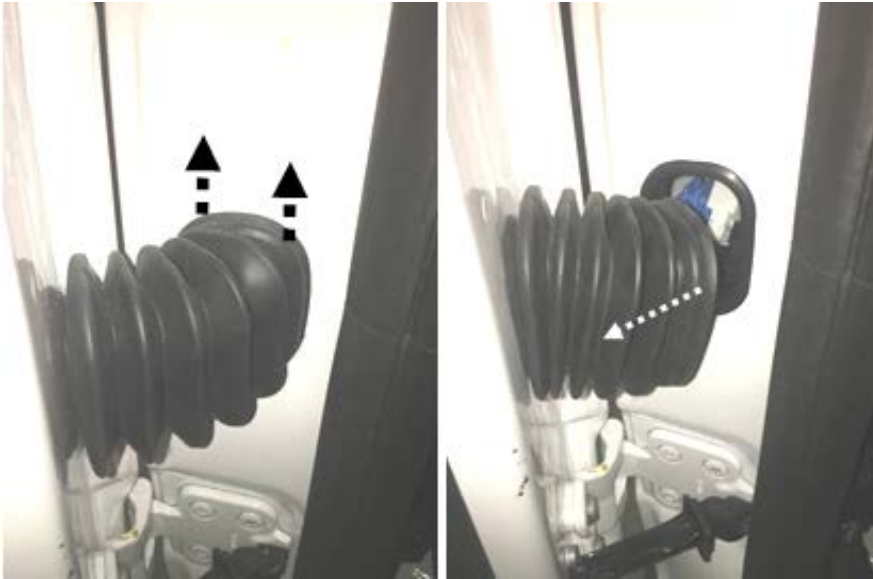

Figure 1
2. Open front door, pull the grommet of the door wiring harness on the A-pillar upwards slightly and remove from retaining frame. **(Figure 1)**